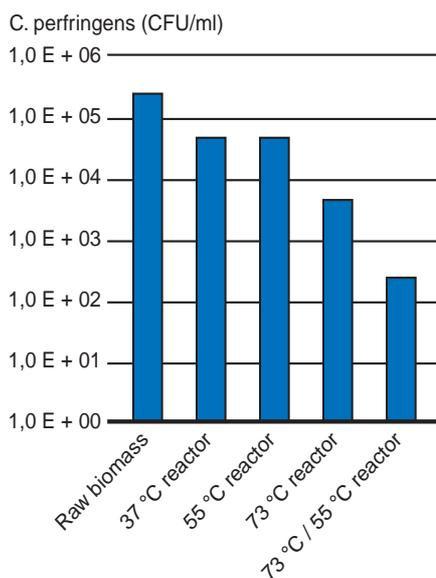

Figure 1. The number of viable spores of Clostridium perfringens in raw biomass and after being eight hours in the studied reactors.
*Figure 1. The energy production and the reduction of greenhouse gases when using grains and straw from one hectare, which corresponds to 7 tonnes of seeds and 4 tonnes of straw. Currently, grains are being used as feed, while only part of the straw is being used for production of electricity and heat. IBUS and Maxi fuel represent two different methods of producing ethanol using the so-called 2nd generation technology. Source: www.niras.dk.*
The hygienization effect of the specific processes was estimated on the basis of survival of extremely heat-resistant spores of the genus *Clostridium perfringens* after the biomass had been in the reactors for eight hours (figure 1). During the trial, both one-step systems managed to reduce